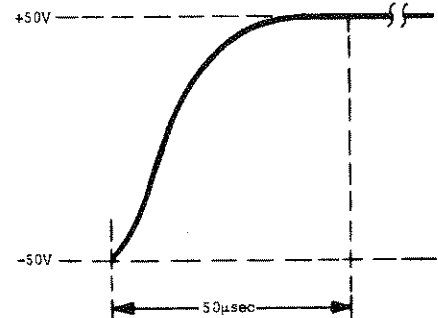

Figure 5-8. Typical Programming Speed Waveforms
e. Adjust oscilloscope to observe rise time of one square wave. The wave shape should be within the tolerances shown on Figure 5-8 (output should change from maximum rated negative value to maximum rated positive value in less than 50 μsec).